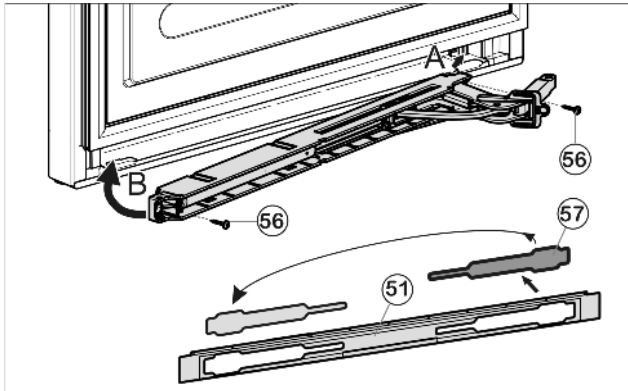

Fig. 21
- ▶ Loosen cover Fig. 21 (57) from the panel Fig. 21 (51) and insert on the other side.
- ▶ With the hinge of the soft stop unit facing the door hinge side, engage the soft stop unit (A) and swivel inwards (B).
- ▶ Tighten soft stop unit (2 x Torx 15) Fig. 21 (56).